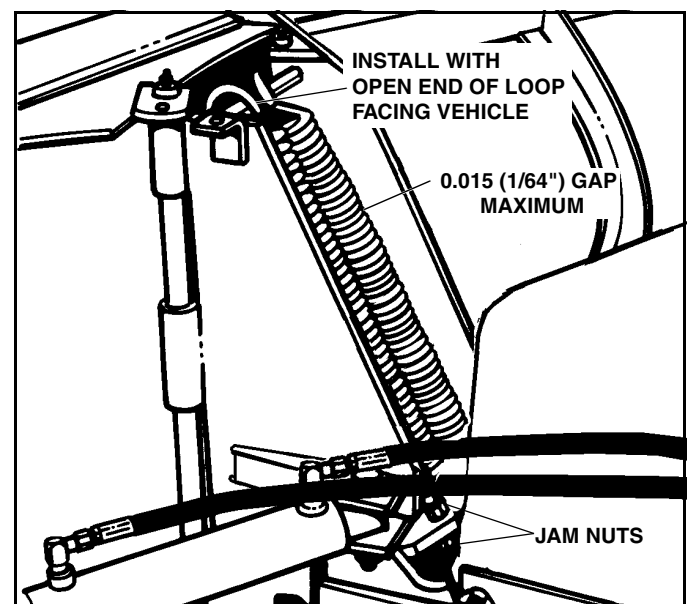

Figure 2-5
3. Check to make sure that the Spring is installed as illustrated with open end of top loop facing vehicle. (See Figure 2-5)
4. Using a 15/16" socket wrench through the holes in the bottom plate of the Main Frame, loosen the two (2) 5/8" Nuts on the Trip Spring Eyebolts. (See Figure 2-5)